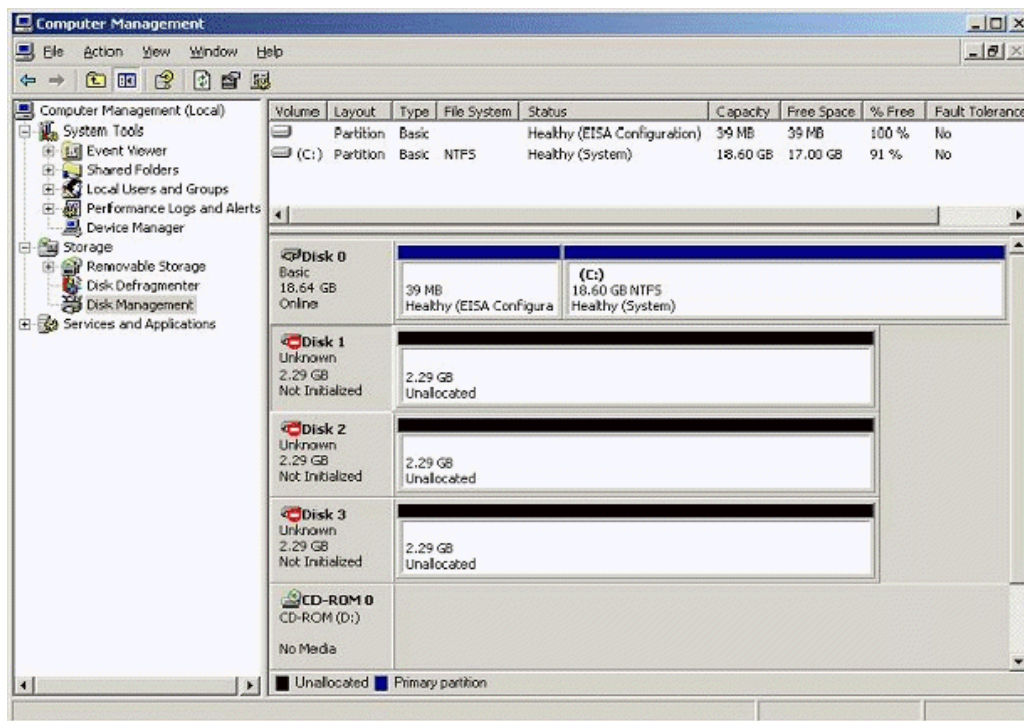
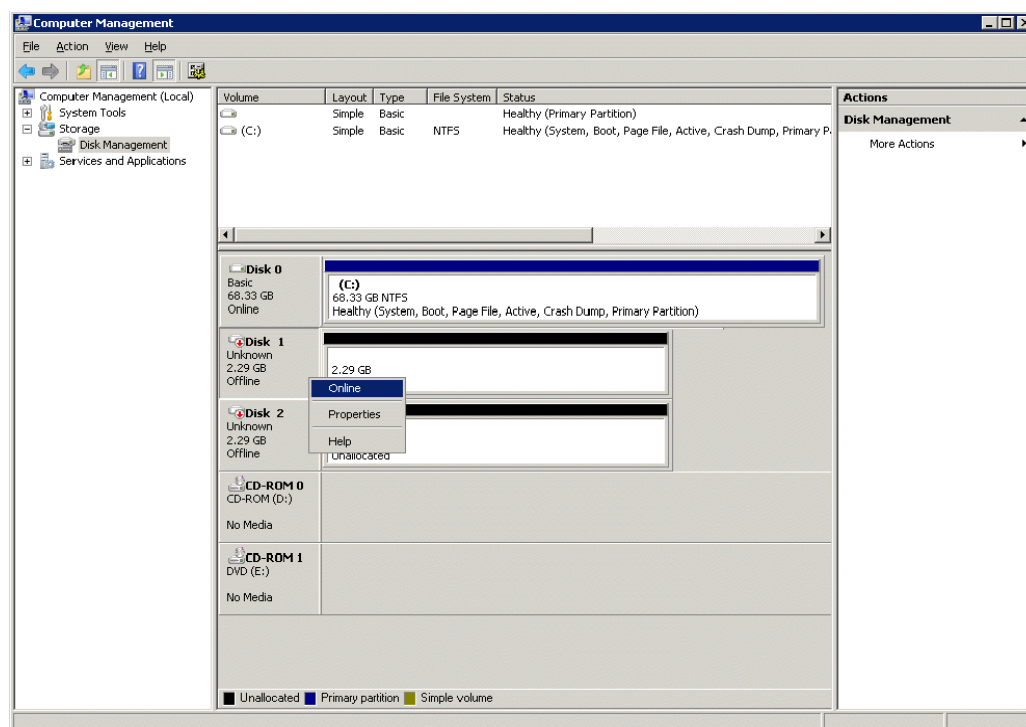

Figure 2-8: Disk Management Panel Showing New Devices
Figure 2-9: Switching to Offline
4. After you write or decline to write a signature on each new device, switching to offline enables the Disk Management main panel to display the devices by disk number (Figure 2-8 and Figure 2-9 on page 2-14). The total capacity and free space is displayed for each disk device with a signature. Configuration information not available indicates no signature. Proceed to Creating and Formatting the Partitions on page 2-15 to create partitions on the new SCSI disk devices.